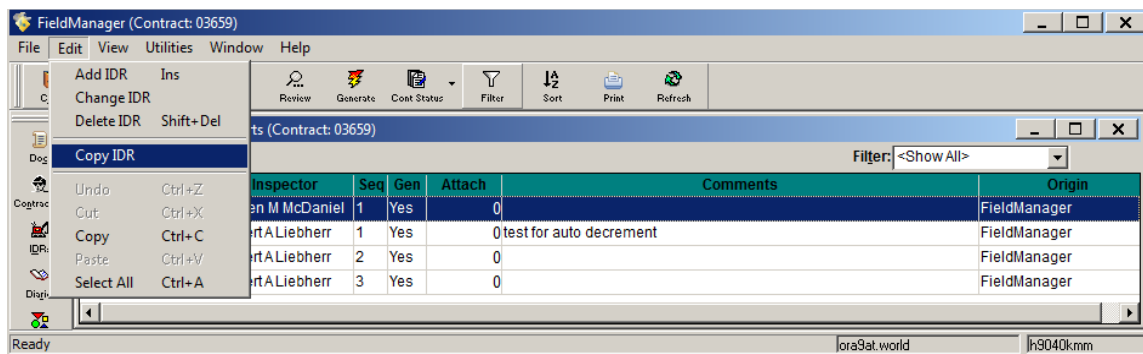

Figure 7-21. Inspector's Daily Reports List Window – Copy IDR Menu Option
1. Select the IDR you want to copy in the IDRs List window and choose **Copy IDR** from the Edit menu (Figure 7-21).